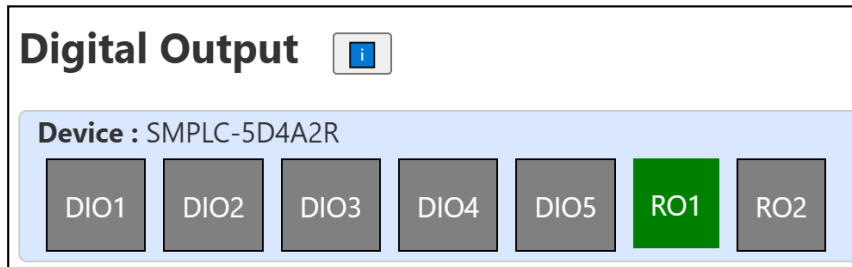

Figure 37: Status of Digital Pins for Device SMPLC-5D4A2R
Digital Output: The Digital output section represents the status of digital pins along with their respective device name. Each pin is clearly labelled to indicate whether it is currently activated (ON) or deactivated (OFF). Activated (ON) pins are highlighted in green, while deactivated (OFF) pins are shown in grey. For example, in Fig 37, for Device SMPLC-5D4A2R, RO1 is displayed as ON in green, while the others are shown as OFF in grey.